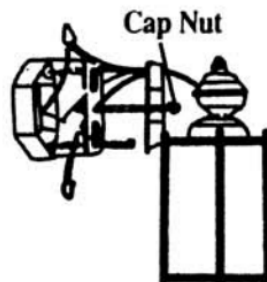

FIG.6
b) Place fixture over nipple and secure with cap nut provided. (FIG. 6) Fixture canopy should be flush with surface.